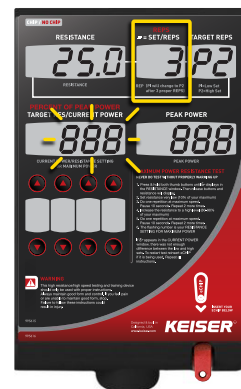

Figure 12. Maximum Power Display
6. The flashing number is your RESISTANCE SETTING FOR MAXIMUM POWER (see Figure 12).